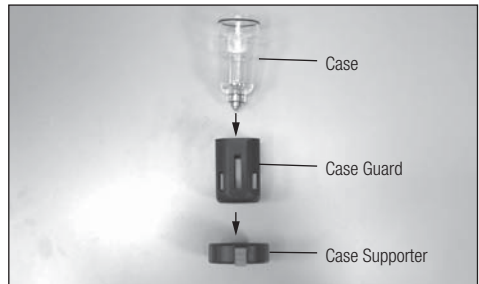

Fig. 32
- 7) Put Case Guard into Case Supporter, and then put case into Case Guard. (Fig. 32)